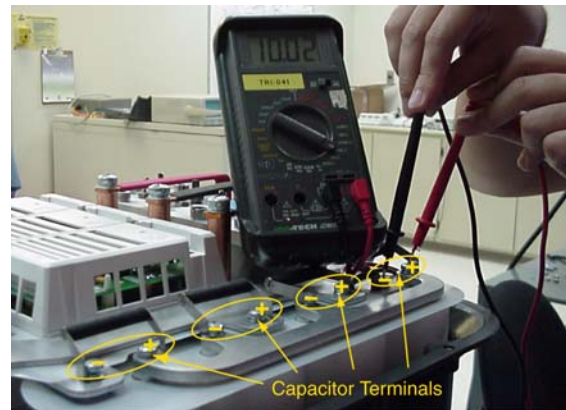

Figure 4-38 Capacitor Measurement
- Place the black (-) meter test probe on one of the negative capacitor terminals, and place the red (+) meter test probe on the associated positive capacitor terminal, as shown in Figure 4-38.